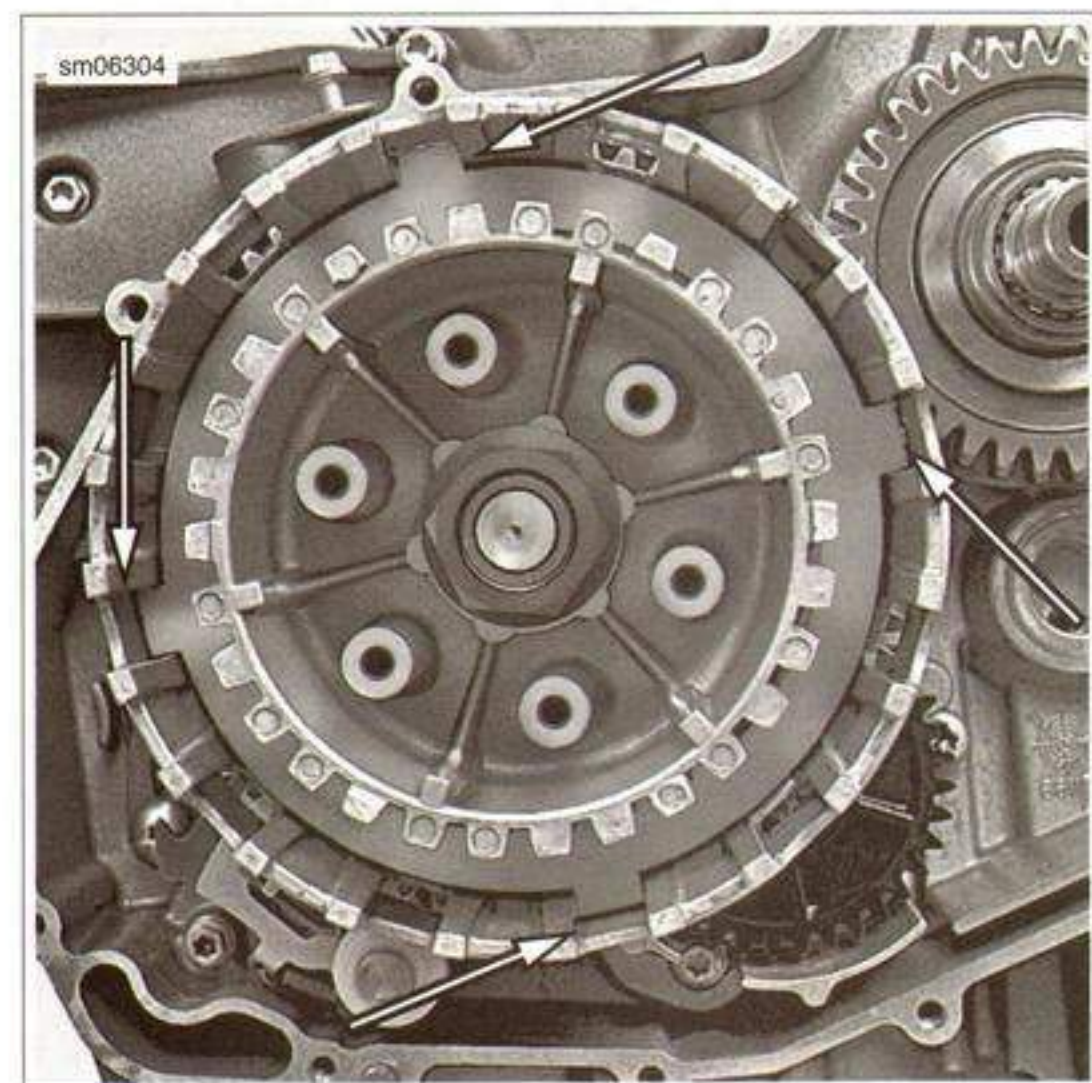

Figure 6-51. Clutch Hub Locking Tool Installed
3. See Figure 6-51. Fit the locking tool in the long slots of the clutch drum engaging the teeth of the tool with the slots in the clutch drum.